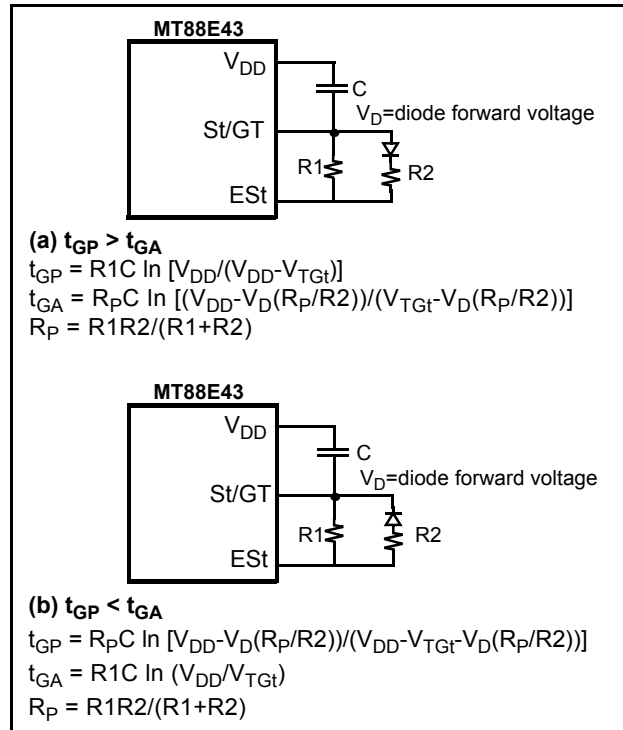
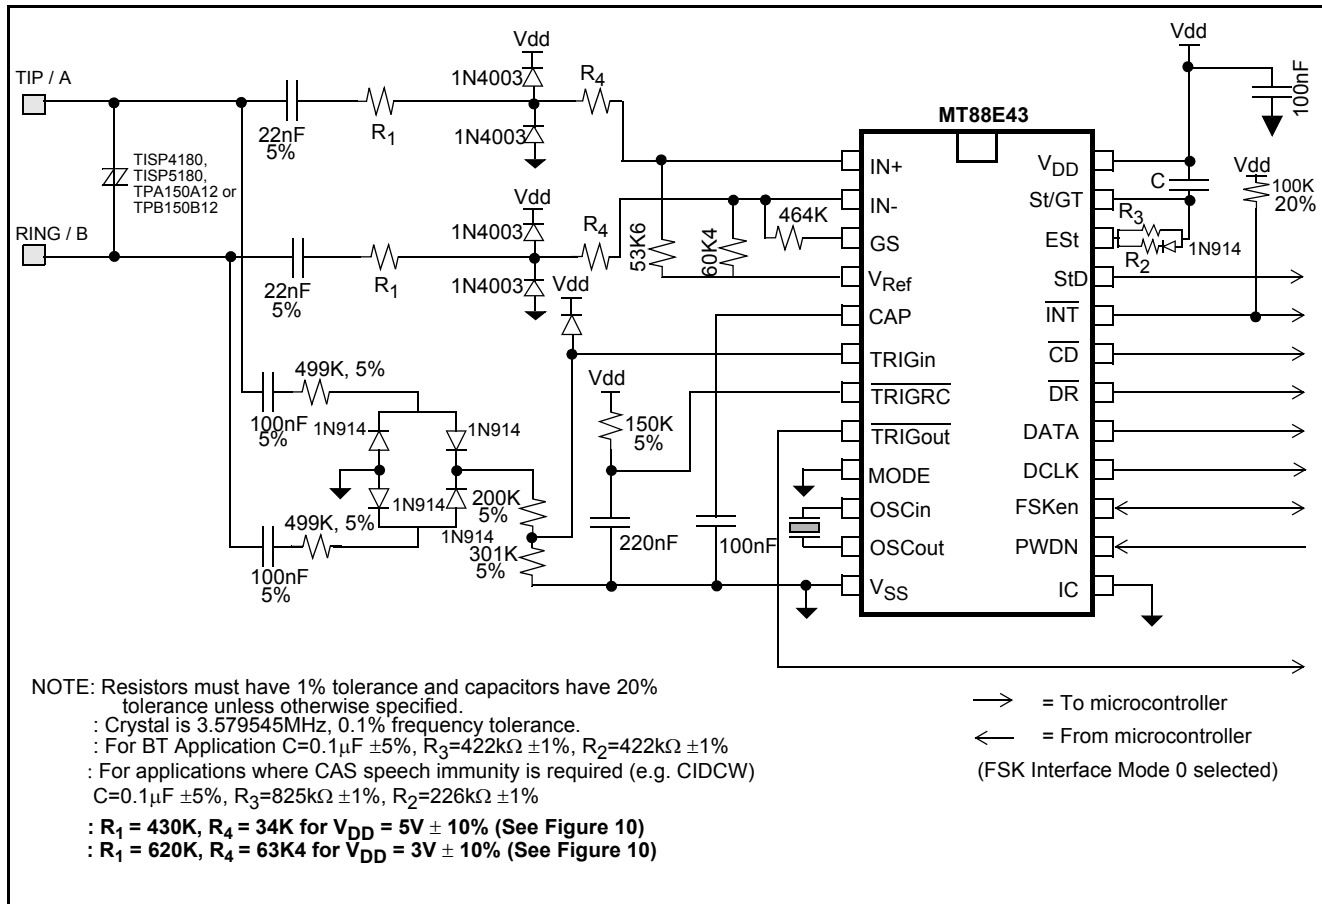
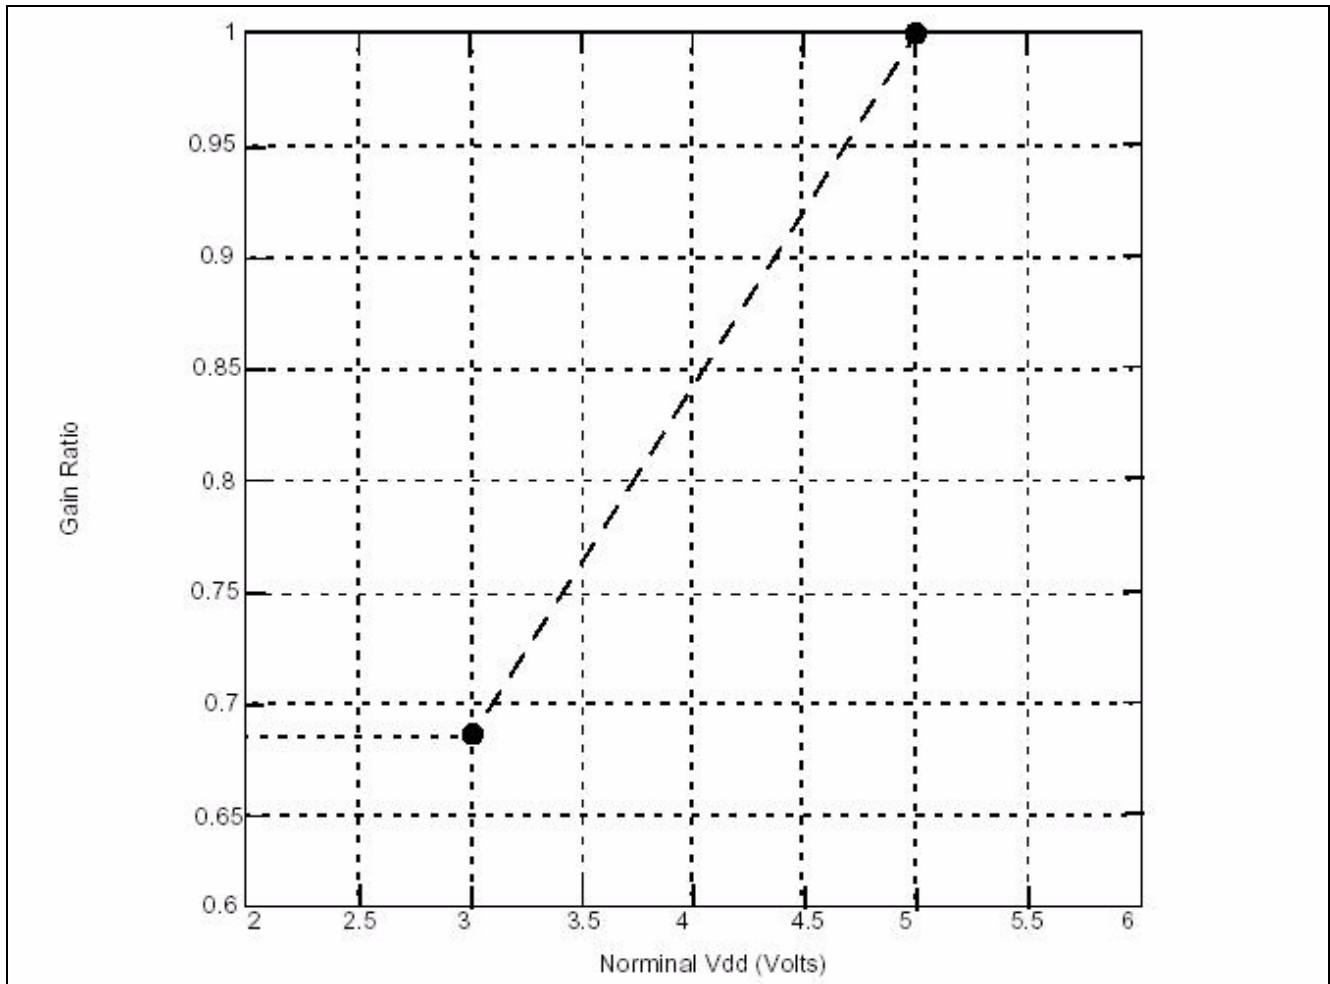

Figure 5 - Guard Time Circuits with Unequal Times
Figure 9 - Application Circuit
Figure 10 - Gain Ratio as a function of Nominal Vdd
BT specifies that the idle state tone alert signal recognition time should not be less than 20 ms when both tones are used for detection. That is, both tones must be detected together for at least 20 ms before the signal can be declared valid. This requirement can be met by setting the t_{GP} (refer to Figure 5) to at least 20 ms.
BT also specifies that the TE is required to apply a D.C. wetting pulse and an AC load 15-25 ms after the end of the alerting signal. If $t_{ABS}=t_{DA}+t_{GA}$ is 15 to 25 ms, the D.C. current wetting pulse and the A.C. load can both be applied at the falling edge of StD. The maximum t_{DA} is 8ms so t_{GA} should be 15-17 ms. Therefore, t_{GP} must be greater than t_{GA} . Figure 5(a) shows a possible implementation. The values in Figures 9 and 11 ($R2=R3=422K$, $C=0.1\mu F$) will meet the BT timing requirements.
The circuits shown in Figures 9 and 11 are application circuits for the MT88E43. As supply voltage (V_{DD}) is decreased, the threshold of the device's tone and FSK detectors will be reduced. Therefore, to meet the BT or Bellcore tone reject level requirements the gain of the internal opamp should be reduced according to the graph in Figure 10. For example when V_{DD}=5V (+/- 10%), R₁ should equal 430 k Ω and R₄ should equal 34 k Ω ; and if V_{DD}=3V (+/- 10%) R₁ should equal 620 k Ω and R₄ should equal 63.4 k Ω . Resistors R₁ and R₄ are shown in Figures 9 and 11.
The circuit shown in Figure 9 illustrates the use of the MT88E43 in a proprietary system that doesn't need to meet FCC, DOC, and UL approvals. It should be noted that if glitches on the tip/ring interface are of sufficient amplitude, the circuit will falsely detect these signals as ringing or line reversal.
Note: In the application circuits shown in Figures 9 and 11, the Gain Ratio of MT88E43 opamp is
3. With gain setting as shown in Figure 10. Production tested at $3V \pm 10\%$, $5V \pm 10\%$.